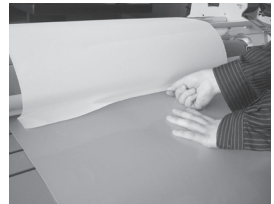

Figure 4
4. Flip the image over the upper roller and hold on to the release liner (Figure 4).